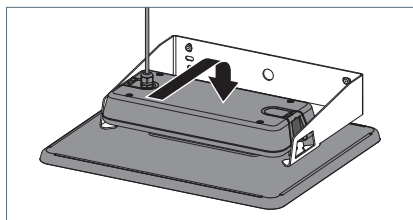

Fig. 5: Hanging the luminaire into the wall holder.
- ▶ Hang the luminaire into the wall holder, see Fig. 5.